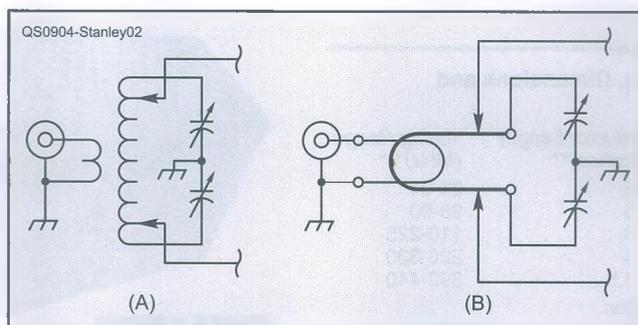

Figure 2 — Balanced tuner configurations. At (A) conventional tapped coil based tuner, at (B) the hairpin equivalent.
Figure 2(A) is a schematic of the conventional tapped link coupled tuner. Figure 2(B) is a representation of what I call a *hairpin* tuner. The electrical properties are essentially identical, but the physical layout of the hairpin type is optimum for the higher frequencies. By making the main inductor in the shape of a hairpin, or shorted transmission line section as an inductor is nothing new. It has been used for VHF/UHF circuits for many years.